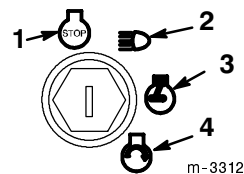

Figure 14
5. Turn the ignition key clockwise to the RUN position (Fig. 14). The glow plug indicator light will come on.
3. Turn the ignition key to STOP (Fig. 14).